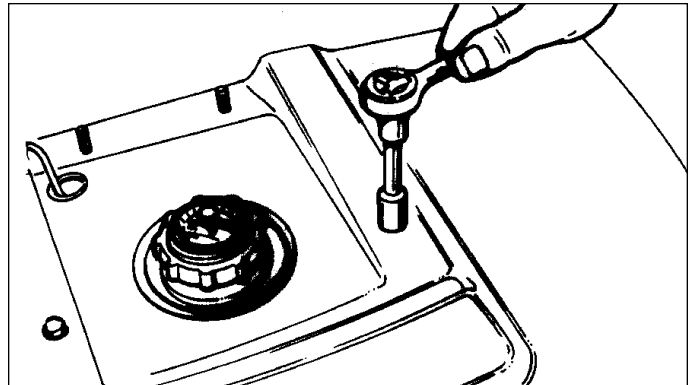

Figure E-5. Removal of Top Bolts
5. Remove the two bolts connecting the seat deck to the deck supports (Figure E-5).